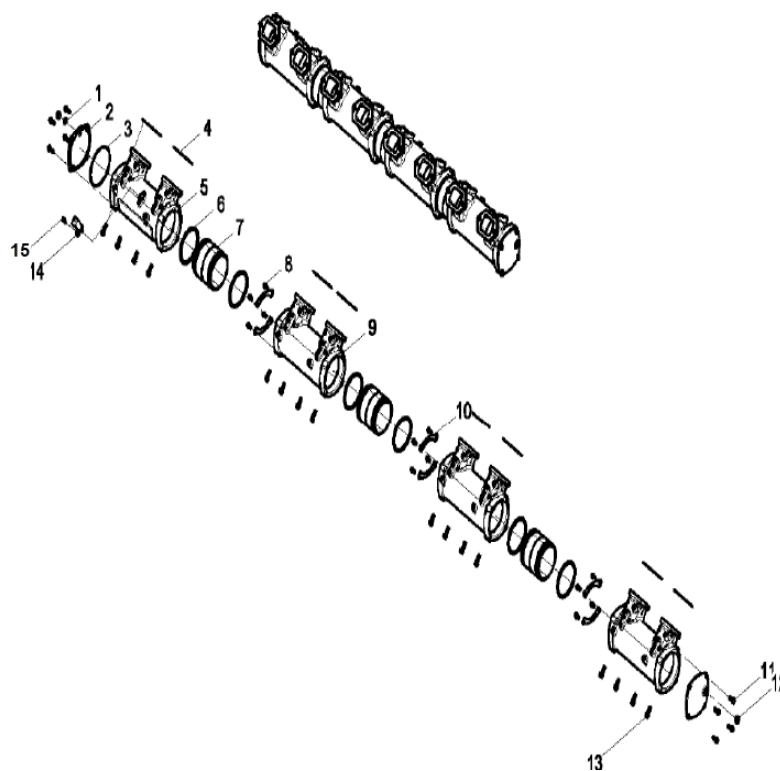

Figure 41. Intake manifold Assembly
1. Remove the four bolts (Figure 41, Item 13) and the four bolts (Figure 41, Item 11) from each section of the intake manifolds (Figure 41, Items 5 & 9).
2. Remove the gaskets (Figure 41, Item 3 & 4) and the connecting pipes and O-rings (Figure 41, Item 6 & 7) from each section of the intake manifold as well as the thrust ring (Figure 41, Item 10).
2. Place new gaskets (Figure 41, Item 4) onto each end of the intake manifold.
3. Place each section of the intake manifolds (Figure 41, Items 5 & 9) onto the bottom of each cylinder head.
4. Hand tighten the four bolts (Figure 41, Item 13).
5. Apply clean grease onto the O-ring (Figure 41, Item 6) and place the O-ring onto each end of the intake manifold sections.
6. Place the thrust ring (Figure 41, Item 10) onto the end of each connecting pipe (Figure 41, Item 7).
7. Install each thrust ring (Figure 41, Item 10) and connecting pipe (Figure 41, Item 7) onto each end of the intake manifold sections.
8. Insert and hand tighten the four bolts (Figure 41, Item 11) on each end of the intake manifolds.
9. Once all sections of the intake manifold have been installed and all bolts have been hand tighten torque down all bolts (Figure 41, Items 11 & 13).